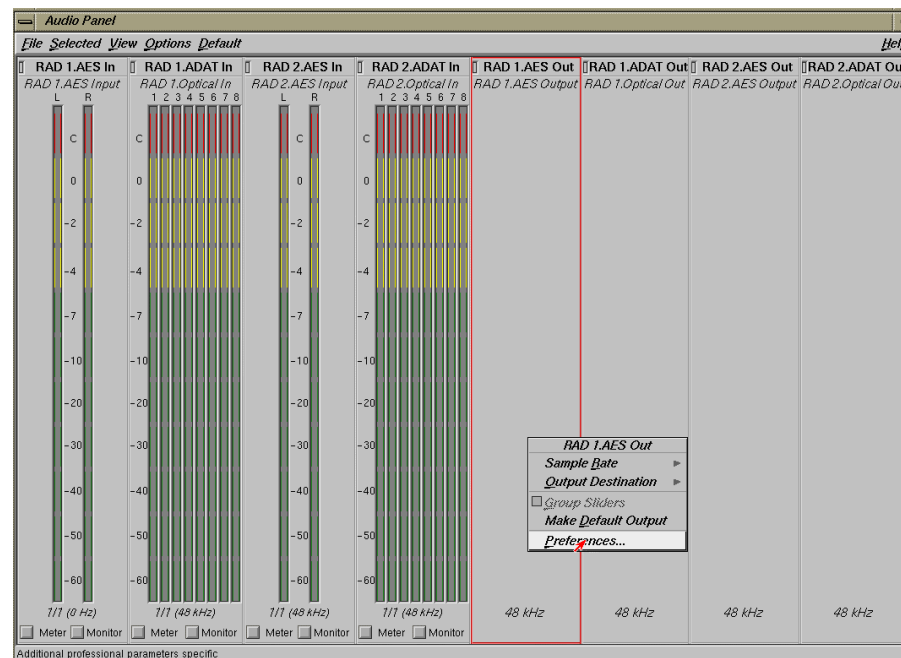

Figure 4-3 Selecting Preferences for the Output Device
2. Select Preferences in the output device menu, as shown in Figure 4-3.
If more than one PCI Digital Audio Board is installed, the system names each board using an incremental prefix naming scheme. For this type of configuration, one AES input is displayed as "RAD 1.AES In" and the other as "RAD 2.AES In." Also, one AES output is displayed as "RAD 1.AES Out" and the other as "RAD 2.AES Out" (see Figure 4-3).